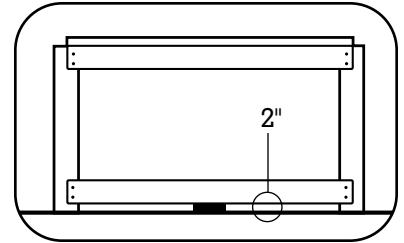

Fig. 33
- Once the top Side Rail has been installed, place one Side Rail at the bottom of each Rail section (Fig. 33). Pre-drill and place two 2-1/2" stainless steel or galvanized deck screws 1" from the end of each Side Rail and fasten into each 4x4 post – be sure to level and square the bottom Side Rail. **There should be no more than 2" from the deck surface to the bottom edge of the Side Rail*** (Fig. 33). There should be a minimum 1/16" gap between each Side Rail to allow for expansion and contraction.
- Block each 6' Rail section at the bottom at least once for support (Fig. 33).